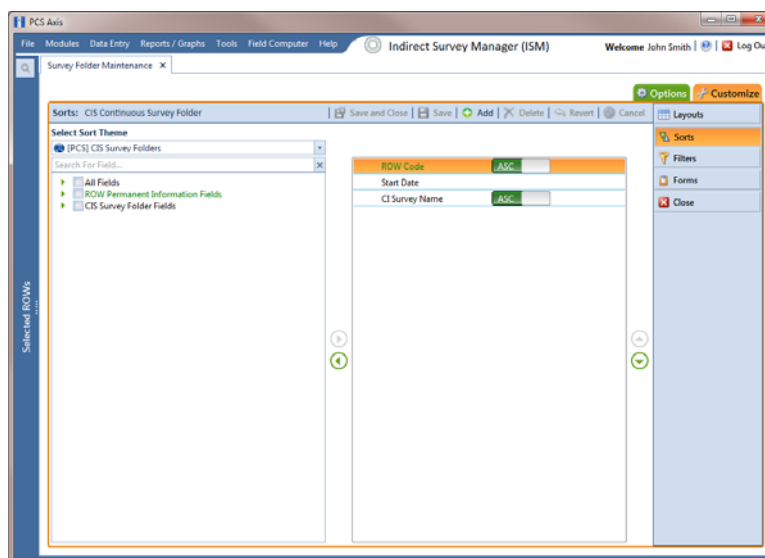

Figure 6-14. Sorts
- 5 Click the **Customize** tab  then the **Sorts** button  to open the *Sorts* page (Figure 6-14).